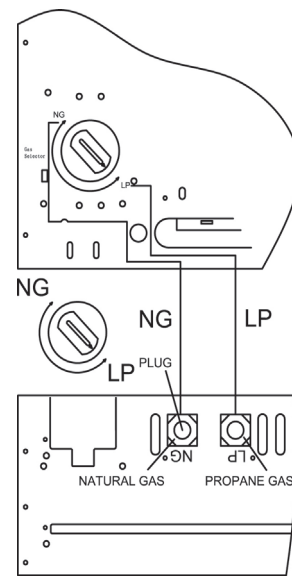

Figure 17
2. For propane gas, press in knob using a flat screwdriver with a blade the thickness of a quarter and turn knob counterclockwise  until the knob locks into the LP position, see Figure 17. Fuel selection device must be locked in the LP position. Do not operate heater between locked positions.
5. Check all joints from equipment shutoff valve to control valve (see Figure 17). Apply mixture of liquid soap and water to gas joints. If bubbles form, there may be a leak.